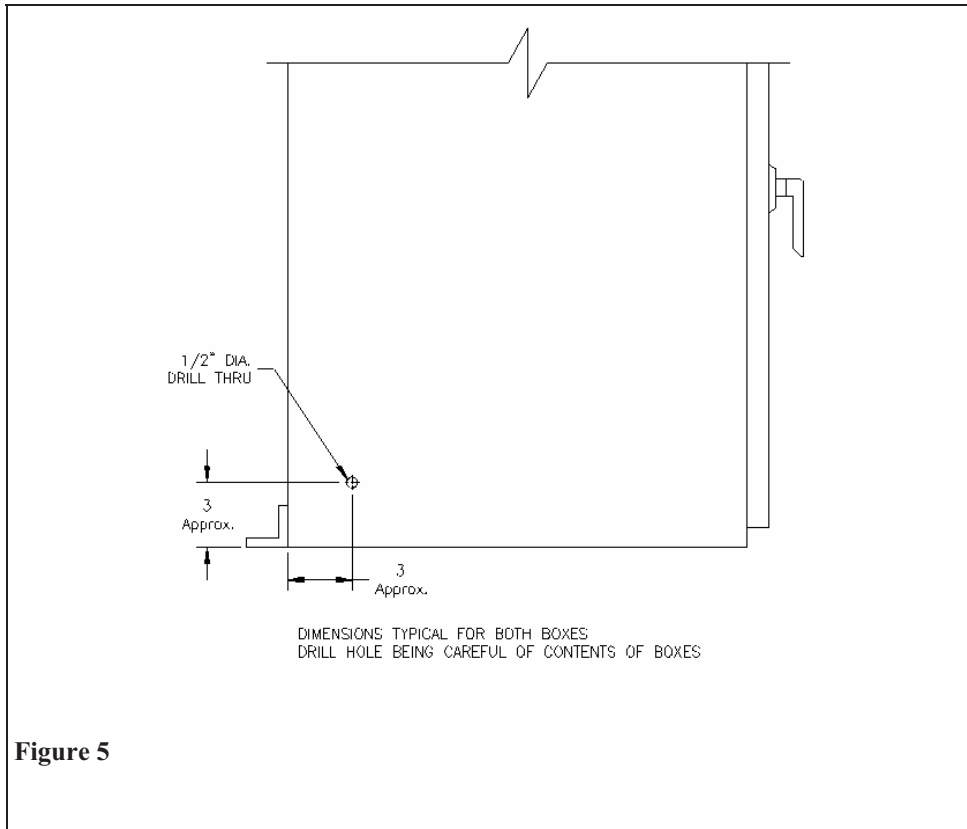
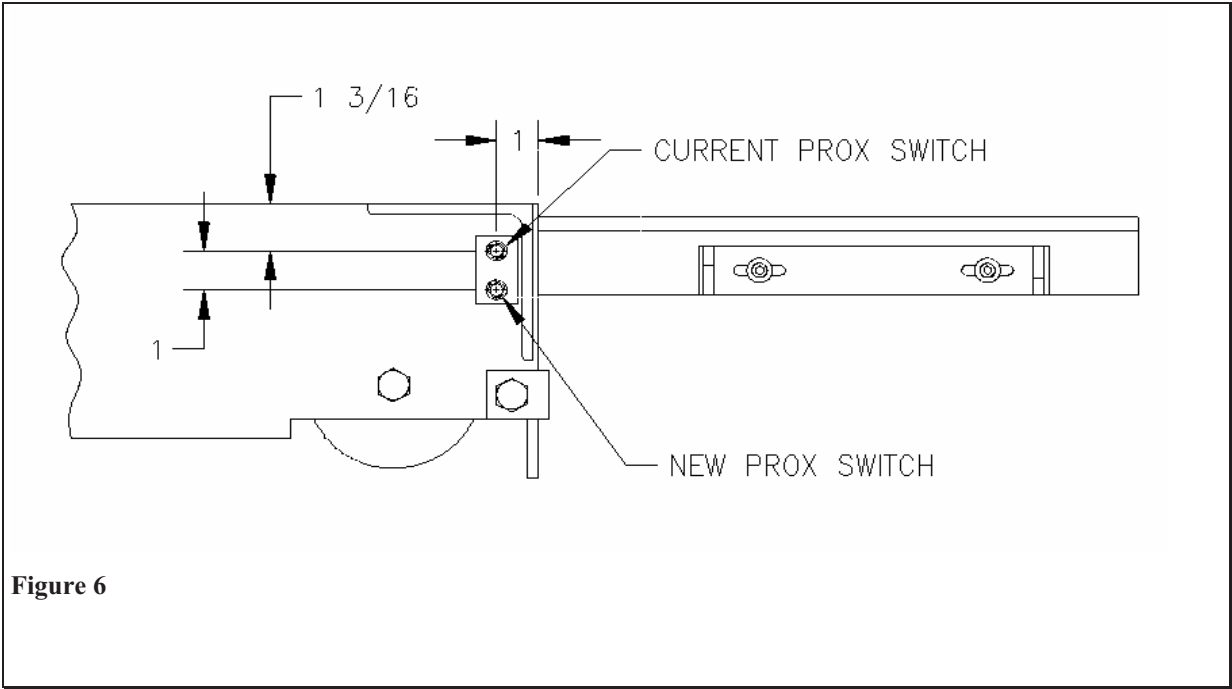

Figure 5
Figure 6
7. To improve accuracy of infeeds, an extra proximity switch and new prox target is to be added to the stationary and carriage infeeds. **See Figures 6 & 7.** The prox cam in the powered infeed brackets is to be replaced with a counting sprocket weldment. **See Figure 8.** A 1/2" hole needs to be drilled in the rear side of both control panels for the cord grip connector. **See Figure 5.** Wire new stationary end prox to terminal block labeled **I89.** Wire new carriage end prox to terminal block labeled **I183.** **The calibration distance from blade at 90° to inside edge of lumber conveyor shall be 10".**